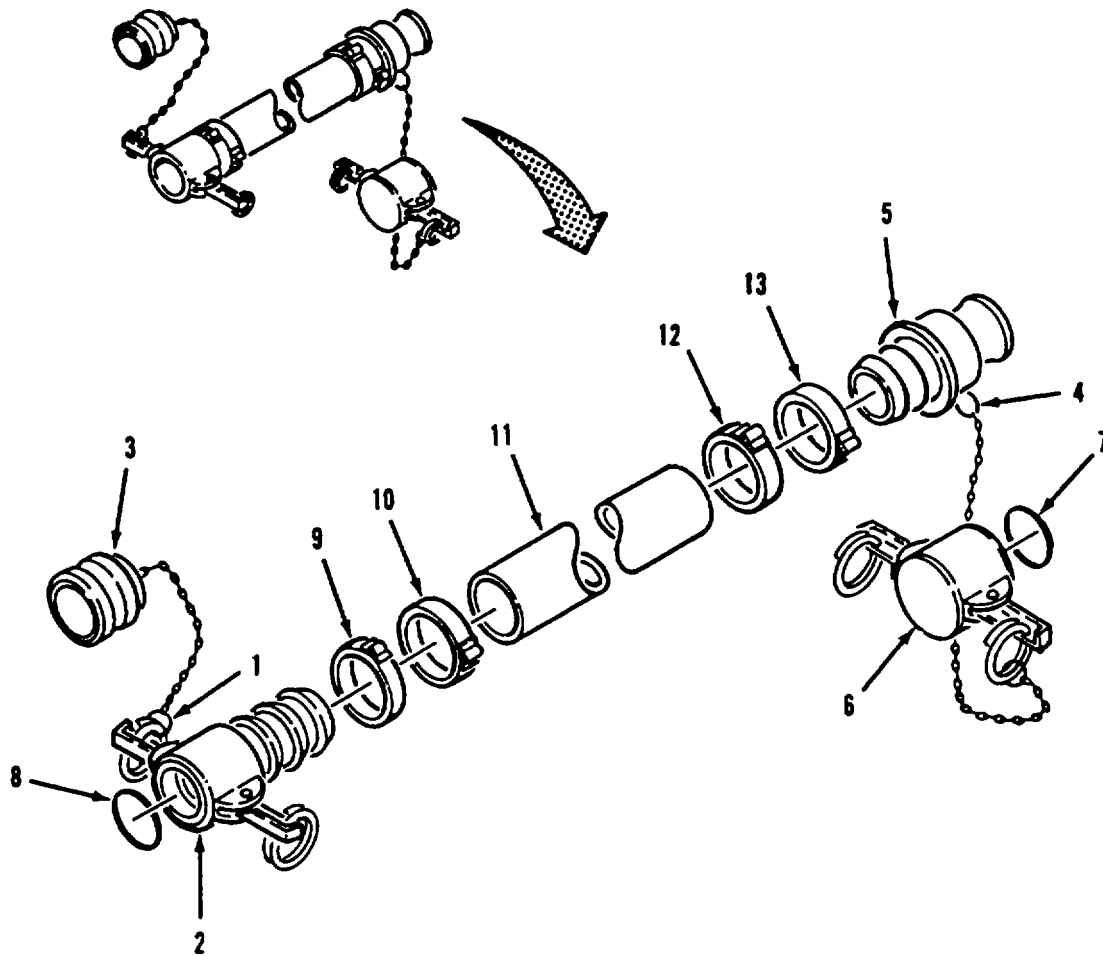

Figure 4-6. Discharge and Suction Hose Assembly
- (14) Install gasket (8, Figure 4-6) in female coupling (2).
- (15) Install gasket (7) in dust cap (6).
- (16) Connect split ring (4) to male coupling (5). Install dust cap (6) on coupling.
- (17) Connect split ring (1) to female coupling (2). Install dust plug (3) on coupling.
- (18) Install hose in water system (para. 3.4b).
- (19) Start up water system (para. 2.9c) and test repaired hose for leaks.